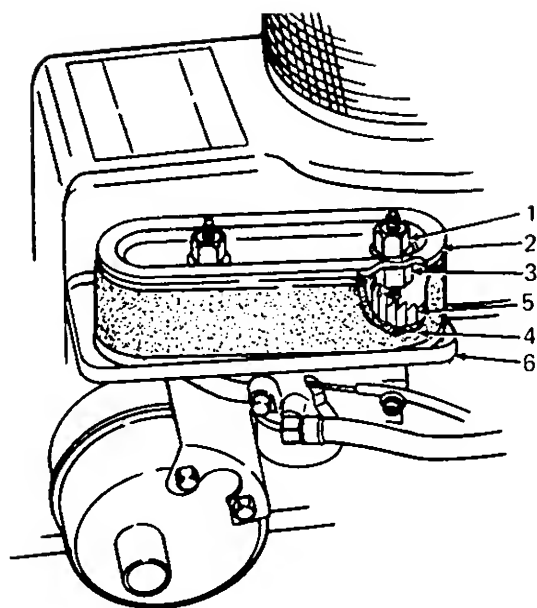

Figure 29. Air Cleaner Assembly
1. Remove wing nut and cover. (See figure 29.)
This engine is equipped with a dry type air cleaner element, which should be checked every 100 operating hours and replaced if dirty. It should be checked and if necessary replaced more often under extremely dirty, dusty conditions. Do not wash element in any liquid or attempt to blow dirt off with air hose as this will puncture filter element. Carefully handle new element — do not use if gasket surfaces are bent or twisted. Check the following when installing a new element: (See Figure 29.)